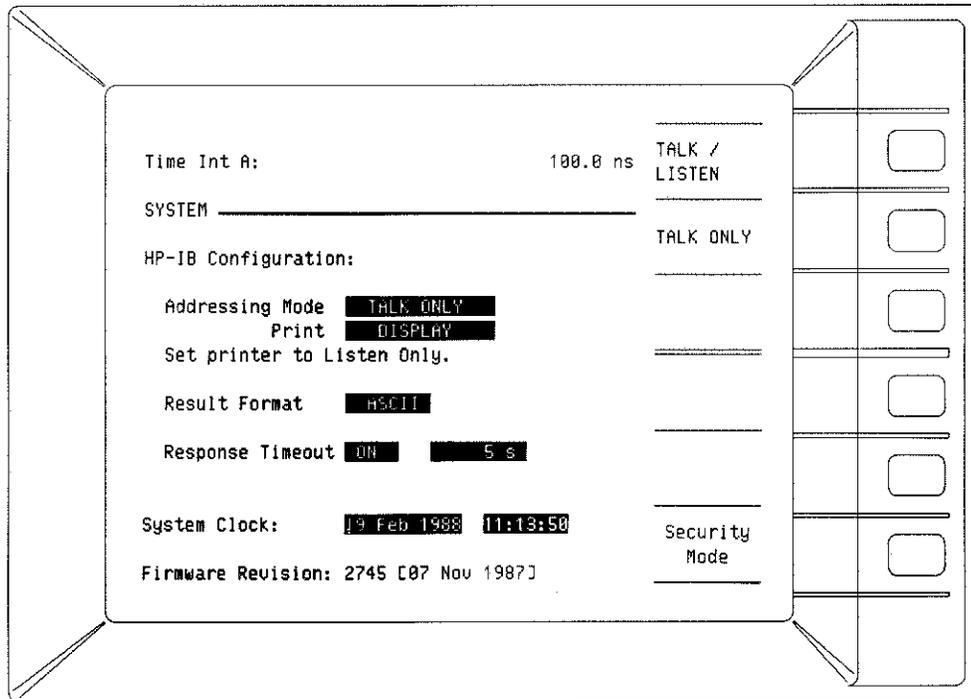

Figure 2-8. System Screen Printout
- L. The printer should print a copy of the System screen as shown above in *Figure 2-8*.